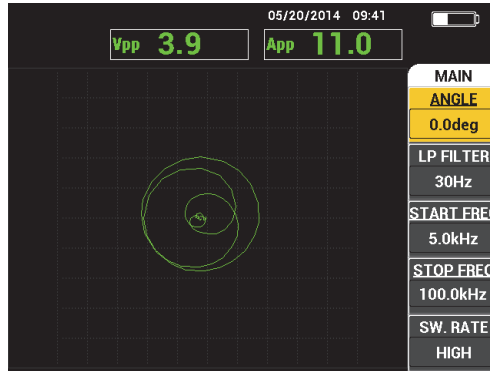

Figure 5-5 The PC Swept display
In pitch-catch (PC) swept mode, the probe is excited by a signal that is swept from a specified starting and ending frequency. The displayed signal represents the excitation frequency that is swept (see Figure 5-5 on page 86).